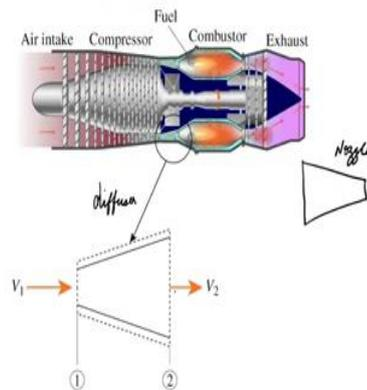

Figure 3.
Figure 3 shows a cross-section of a turbine. A turbine contains a nozzle and a diffuser. A nozzle has a reducing cross-sectional area, while a diffuser has an increasing cross-sectional area. In the nozzle, the fluid velocity increases, while in the diffuser, the fluid velocity decreases. The nozzle and diffusers are not power producing devices ($\dot{W} = 0$). They have a single inlet and outlet ($\dot{m}_i = \dot{m}_e = \dot{m}$). These devices operate at steady state conditions except at the start and the stop ($\frac{dE}{dt} = 0$). These devices are insulated ($\dot{Q} = 0$). Hence, for nozzles and diffusers, equation (1) reduces to,